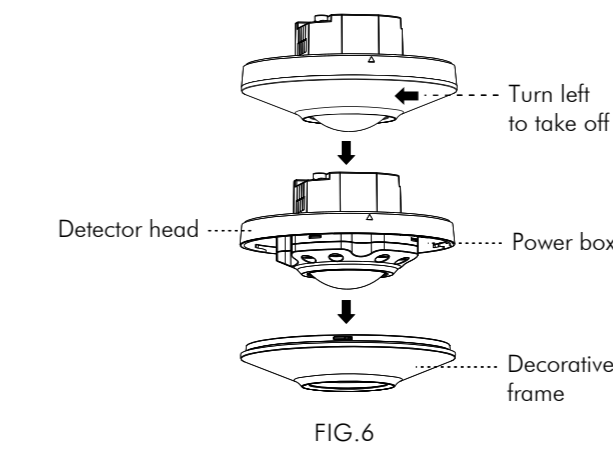

FIG.6
- 3.4.1.1 Take off decorative frame of OS-384i-DALI-230/ OS-384S (See FIG.6).
- 3.4.1.4 Fix the decorative frame (See FIG.6).